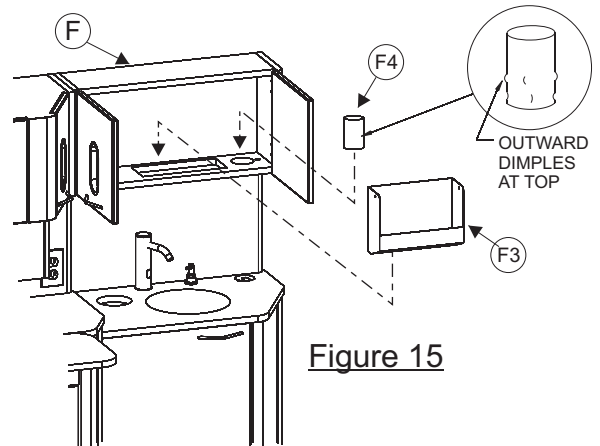

Figure 15
Open doors on Sink Cabinet Upper Storage (F) and install Towel Dispenser (F3) and Cup Dispenser (F4) with outward dimples at top (see Figure 15)